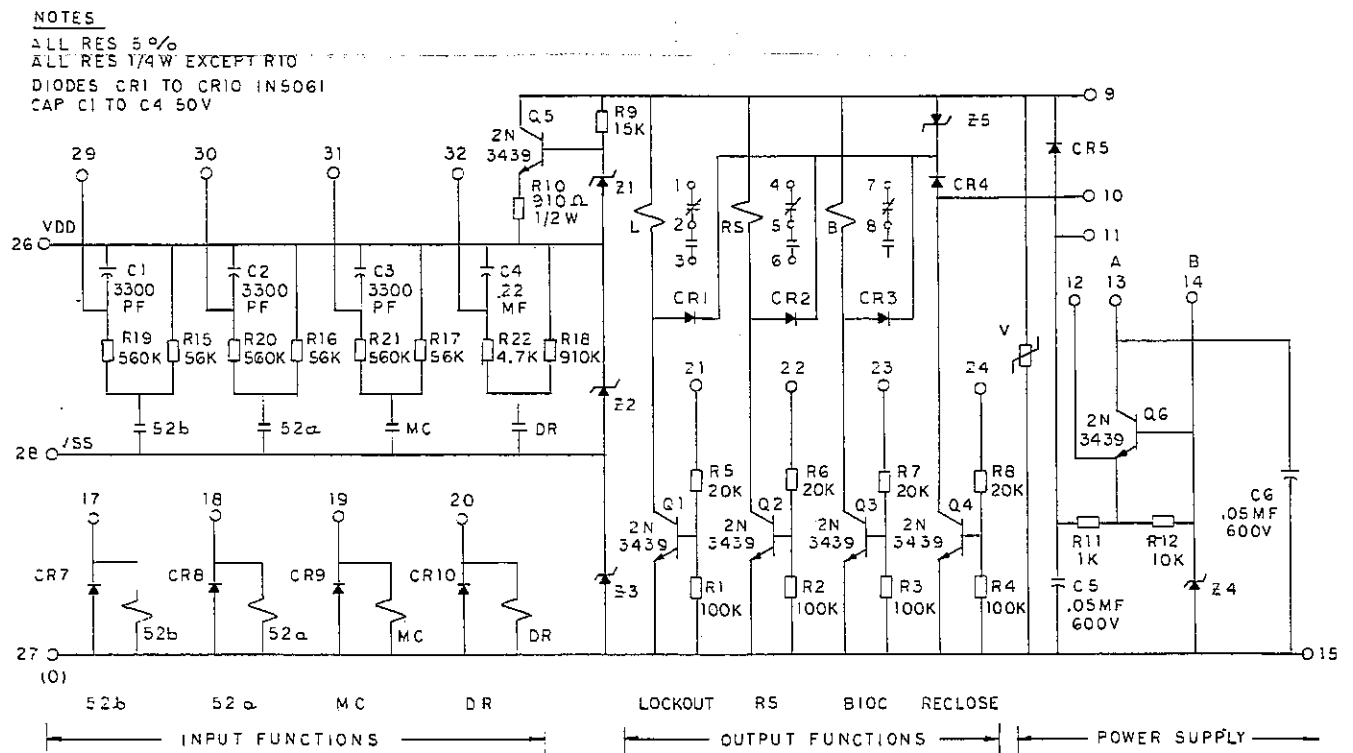

Fig. 7 (0184B5731-0) Relay and Power Supply Circuit
- Fig. 7 Relay and Power Supply Circuit